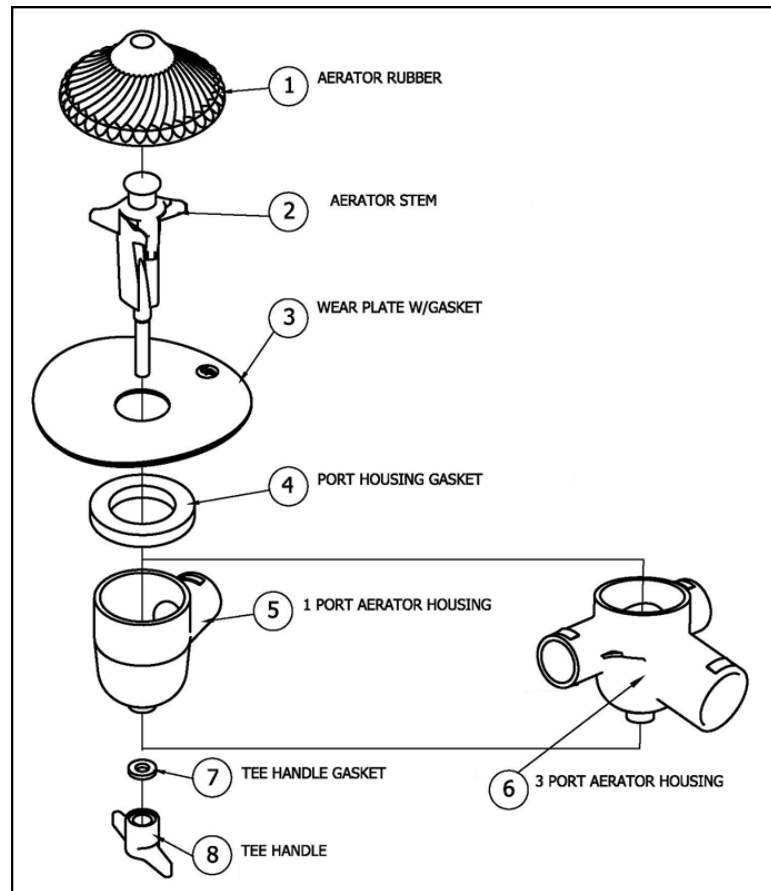

Figure 16. Exploded View of Aerator
3. Check aeration device on interior of tank. Look for torn molded neoprene cone (s), rotated wear plate (s) or plugged aerator housings (see figure 16). Replace as necessary.